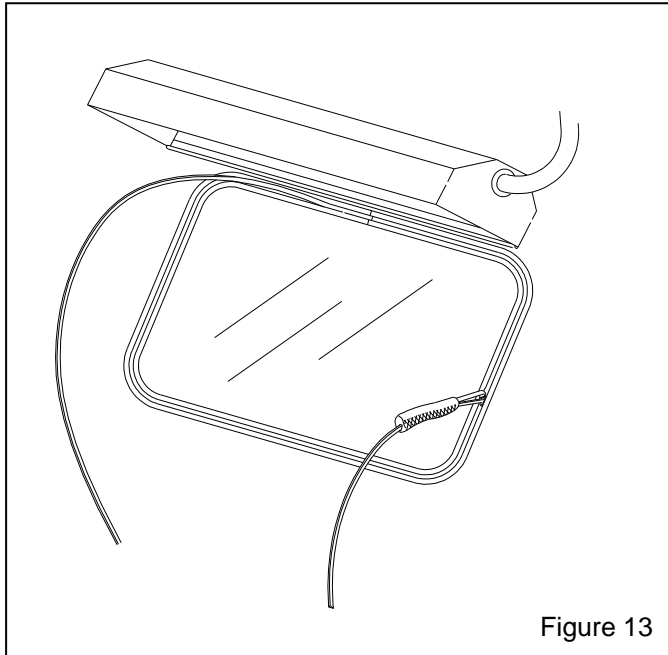

Figure 13
**6.3.10** Feed the filler strip while pulling the tool through the top of the channel, down the side and across the bottom until that end of the strip is in place. Ref. Figure 13.